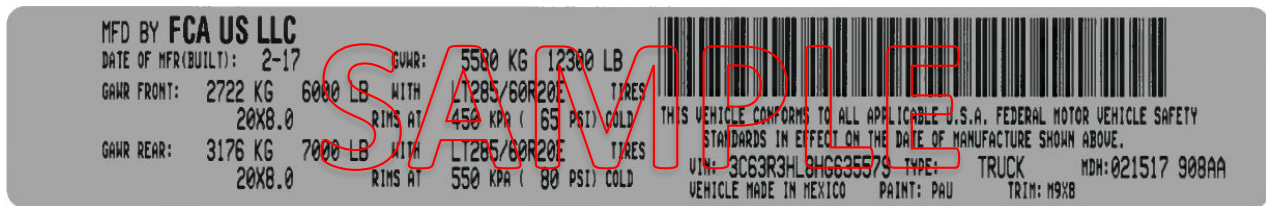

Figure 1 - Safety Compliance Certification Label
1. The loaded vehicle, including all aftermarket accessories, snowplow system, driver, and cargo must not exceed the Gross Vehicle Weight Rating (GVWR) and Front or Rear Gross Axle Weight Ratings (GAWR) specified on the Safety Compliance Certification label located in the driver's door opening. See Figure 1.
- Snowplow prep is not available on Ram 1500 Classic. (DS) Snowplow installation for 1500 Classic is **not approved**.
- Cargo capacity varies based on vehicle options. See your vehicle's payload value listed on the certification label located on the driver's door opening. See Figure 1.
The snowplow approved vehicles shown in the Body Builder's Guide document titled SNOWPLOW PACKAGE AVAILABILITY CHARTS are the manufacturer recommendations based on maximum vehicle option content. The maximum allowable plow weight can be determined by the dealer / supplier / manufacturer. In all cases, the loaded vehicle weight, including the snowplow system, all aftermarket accessories, driver, options, and cargo, must not exceed either the Gross Vehicle Weight Rating (GVWR) or Gross Axle Weight Ratings. (GAWR) The GVWR and GAWR weights are specified on the Safety Compliance Certification label located in the driver's side door opening. See Figure 1.